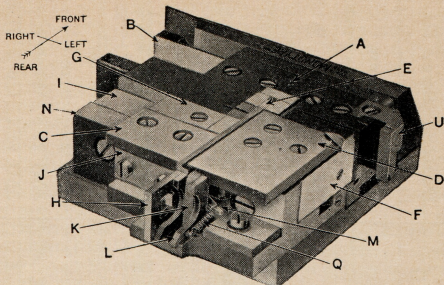

FIGURE 1.
Put the LATCH LEVER (K) in position as shown in Fig. 1, pressing forward the LATCH (M) to make sure that the LEVER drops into position over its PIN.
Draw back bottom **MOLD BLADE (H)** and put its **STOP (J)** in position (Fig. 1) holding it gently against the right side of the **MOLD BLADE** and clamp it with its two **SCREWS**.